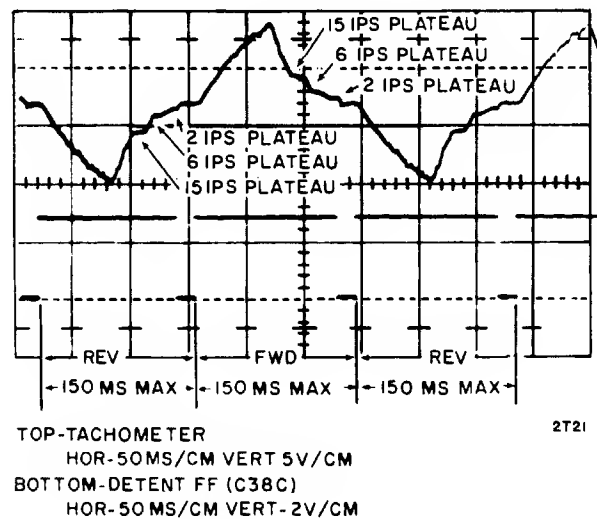

Figure 6-17. Tachometer Output (99-Track Repeat Seek)
12. Connect the oscilloscope probe to test point C of the Detent FF (C38). Set the External Sync switch to negative. As the 99-track repeat seek cycles, make oscilloscope settings and a trace comparison according to Figure 6-17. Time A (carriage access time for a 99-track seek) should not exceed 150 ms.